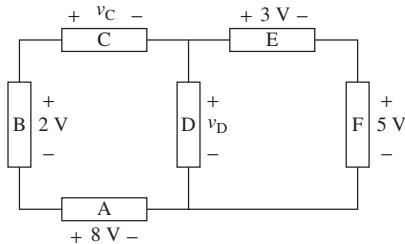

FIGURE P2.31 Circuit for Problem 2.31.
2.31 (A) Find v_C and v_D in Figure P2.31: